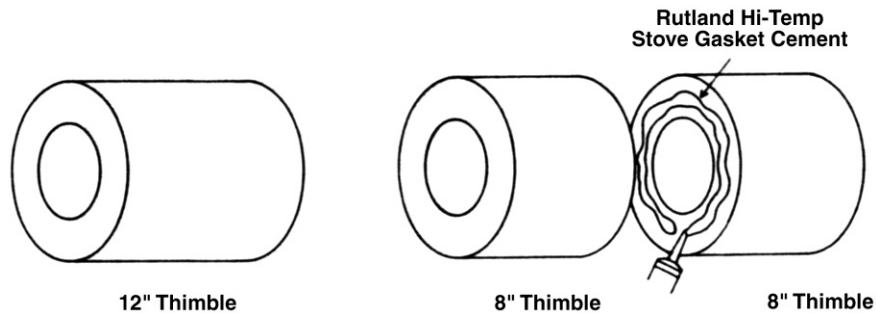

**Figure 5: Thimble Length Adjustment**
4. Insert the (thick wall) Thimble into the mounted Metal Base. Position Thimble firmly against chimney. The Thimble shall protrude at least 1/4 " beyond the Metal Base flange. If the Thimble protrudes more than 1/2" beyond round Metal Base flange (into room), mark Thimble using flange edge as a guide. (See Figure 5) Remove Thimble from Metal Base. Allow 1/4 " to 1/2 " additional length of Thimble beyond the marked line to protrude into the room. This additional length is your cutting line, and is **necessary** for the Thimble to be **firmly** held against the chimney. Using a handsaw cut the excess portion of the thimble off. The use of a facemask is recommended as good practice while sawing Thimble.